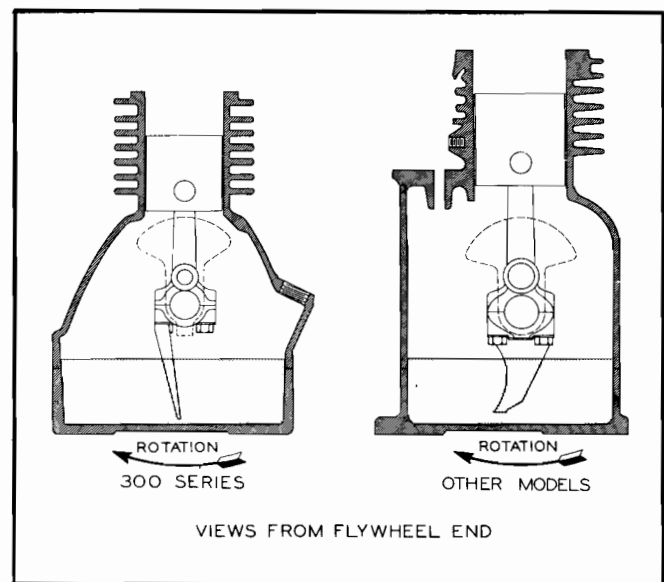

Figure No. 60—Correct Position of Splash Fingers
5. The oil distributor is installed on the connecting rod as shown in Figure No. 60. It should be noted that the oil distributor leads into the oil and that the distributor